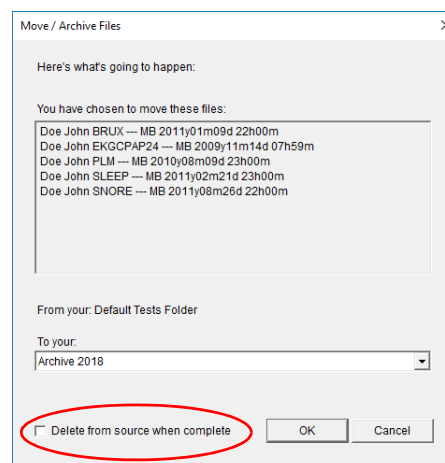

Figure 7.4: Move / Archive Files window showing the files to be moved and the destination
7. If you want the original studies files deleted from the source folder, ensure the *Delete from source when complete* checkbox is selected (circled in Figure 7.4).